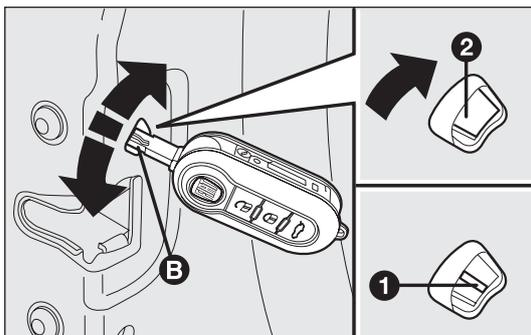

fig. 82
**REAR DOORS EMERGENCY LOCK DEVICE (5-door versions) fig. 82**